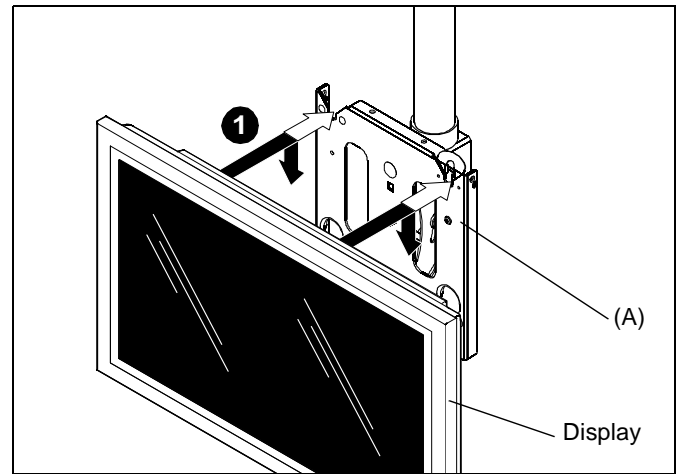

Figure 2
1. While supporting both sides of display, align four mounting buttons on interface bracket with four mounting holes in MCS (A). (See Figures 2, 3 and 4)
2. Lower display into place listening for audible "click" to ensure recessed area of mounting buttons are properly seated in lower area of mounting holes. (See Fig. 2, 3 and 4)